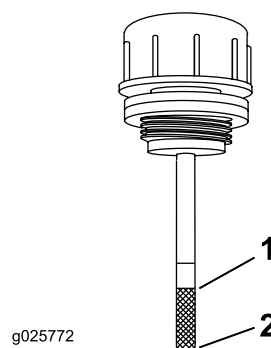

Figure 59
6. Clean the area around the dipstick of the hydraulic-system reservoir (Figure 59).
7. Remove the dipstick from the hydraulic reservoir (Figure 59).
9. Remove the dipstick and look at the end (Figure 59). If the fluid level is at the add mark, slowly pour only enough fluid into the hydraulic reservoir to raise the level to the full line.